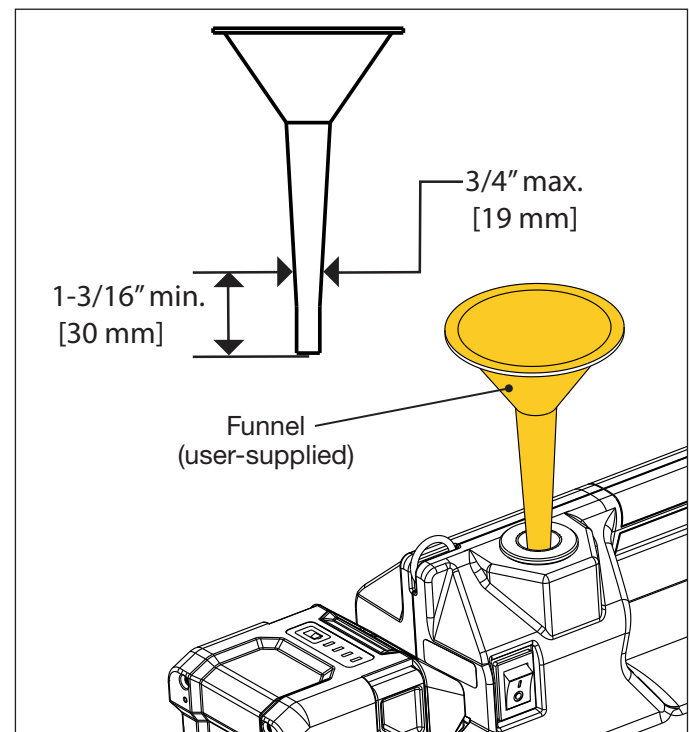

Figure 14: Adding Oil Using Funnel
6. Place a funnel (maximum 3/4" [19 mm] stem outer diameter & at least 1-3/16" [30 mm] long) through the fill opening and into the oil fill tube. See Figure 14.